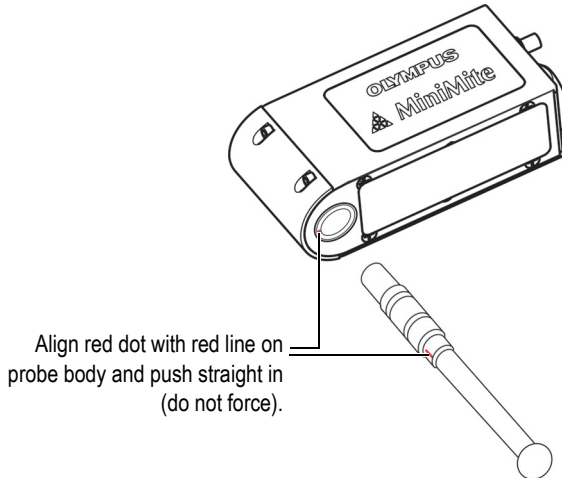

Figure 2-2 Inserting a Fischer probe
- ◆ Insert the Fischer probe with the red dot on the scanner aligned with the red line on the probe body (see Figure 2-2 on page 26).